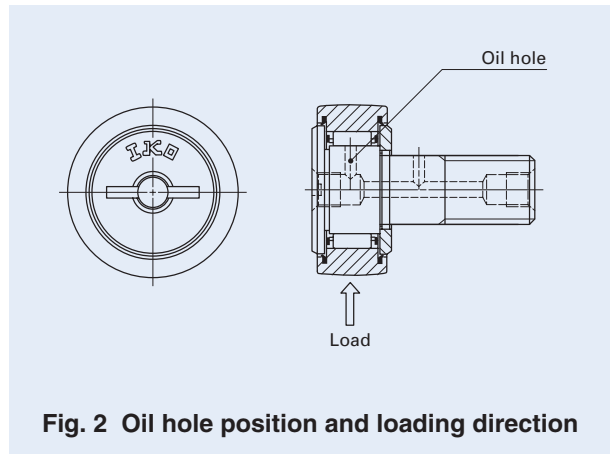

Fig. 2 Oil hole position and loading direction
② The IKO mark on the flange head of the stud indicates the position of the oil hole on the raceway. Avoid locating the oil hole within the loading zone. This may lead to a short bearing life. (See Fig. 2.) The hole located in the middle part of the stud perpendicular to the stud center axis is used for greasing or locking.